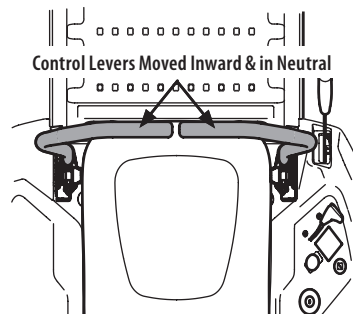

Figure 27
2. Move the RH and LH lapbar drive control levers inward in the neutral position which also disengages the parking brake (Figure 27).